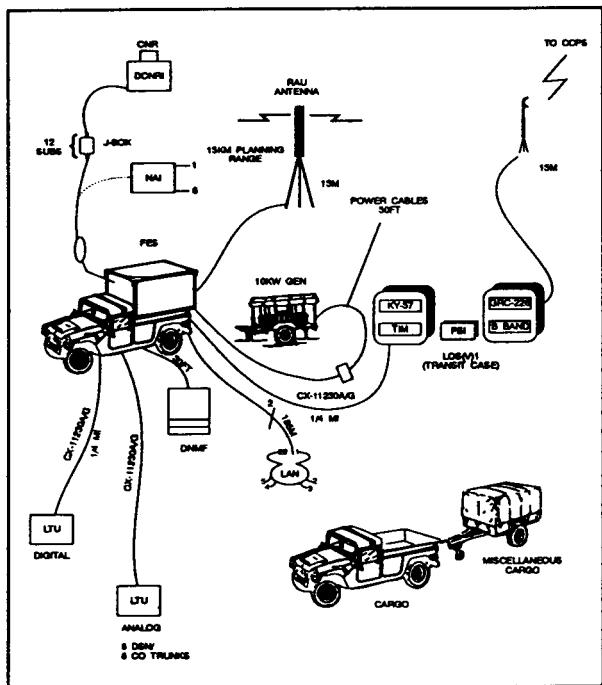

Figure 3-16. Typical CCES.
**Contingency Communications Extension Switch (CCES).** The CCES consists of one FES shelter towing a 10 kilowatt generator, one dismantled LOS(V)1 with one radio with Band 1 and Band 3 capabilities, and one cargo high mobility multipurpose wheeled vehicle (HMMWV) with cargo trailer. Figure 3-16 shows a typical CCES.